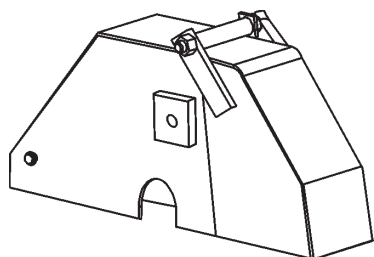

Figure 13. Blade Guard
**NEVER** operate the saw without blade guards and covers (Figures 13, 14 and 15) in place. **DO NOT** operate with the front of the blade guard raised. The blade exposure cannot exceed 180 degrees during operations. Adhere to the safety guidelines of the **American National standards Institute (ANSI) B7.1 and B7.5.**